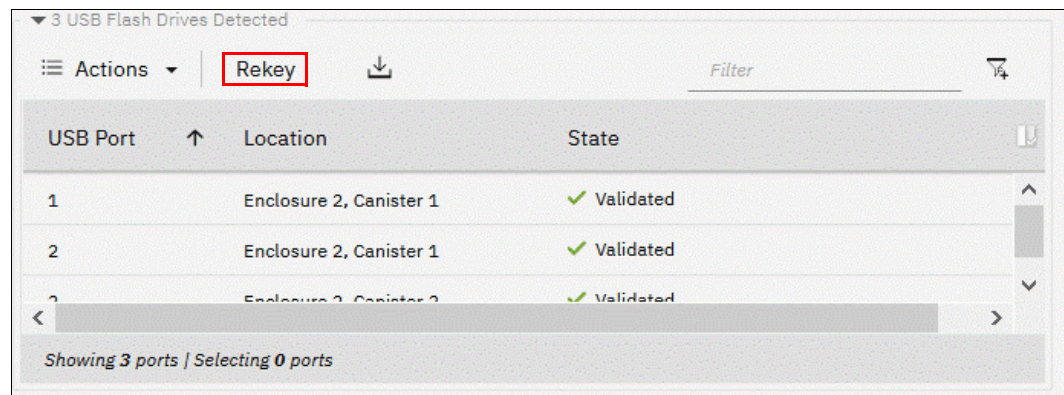

Figure 12-71 Starting a rekey on a USB flash drives provider
2. Verify that all USB drives that are plugged into the system are detected and show as **Validated**, as shown in Figure 12-71. Click **Rekey**. You need at least three USB flash drives, with at least one reported as **Validated** to process a rekey.